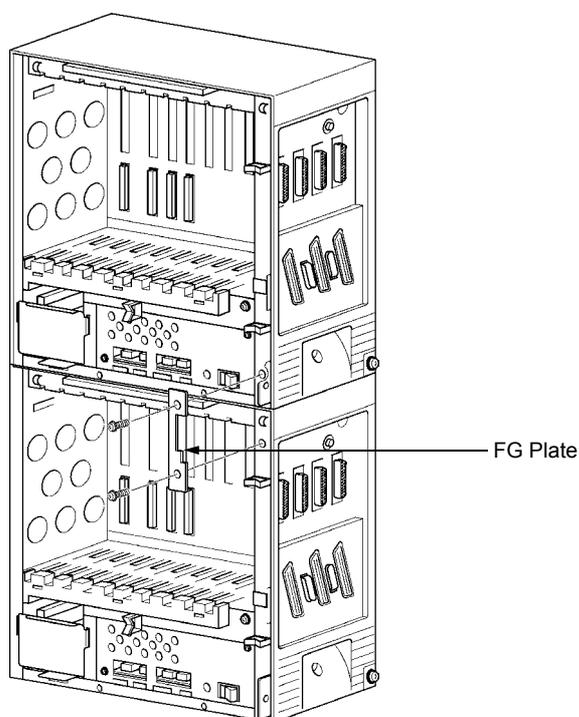

Figure 4-20 Attaching the Frame Ground Plate
2. When connecting an Expansion KSU, use the two screws to attach the FG plate to the Basic and Expansion KSUs. Refer to *Figure 4-20 Attaching the Frame Ground Plate*. (When installing a second Expansion KSU, another FG plate is required).